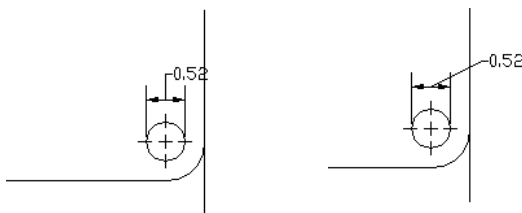

**Figure 15-20:** Dimension text is placed over the dimension line with a leader. On the right, the text has been moved to the right of the model.
- ♦ **Over Dimension Line, with Leader:** Places the dimension text over the dimension line and between the extension lines, but above them, with a leader from the dimension line to the text. You can move the text anywhere to suit your needs and dimensioning conventions, as shown in Figure 15-20.